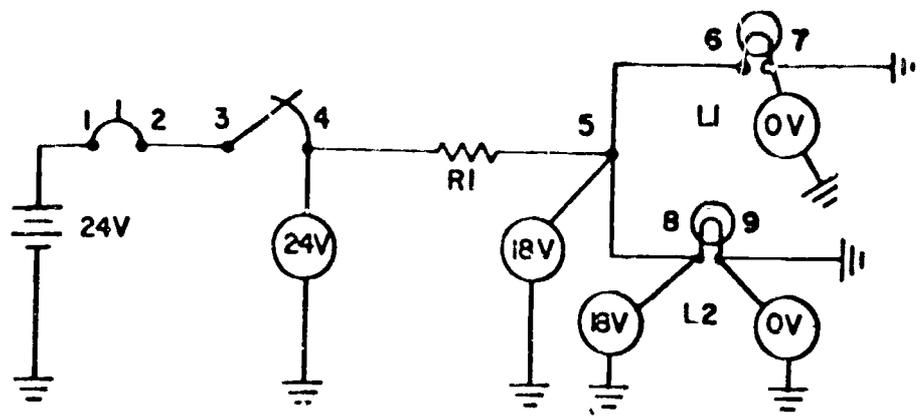

Figure 1.
The normal circuit readings are given in figure 1 below. From these readings you should see that the voltage drop across R₁ is equal to 6V. (24 - 18 = 6V.) The drop across each lamp is 18V. (18 - 0 = 18V.)
- _____ 1. If R_1 was open in figure 1, the voltmeter would read 0V at point
- _____ 2. If the wire between points 5 and 8 was open in figure 1, the voltmeter would read 0V at point